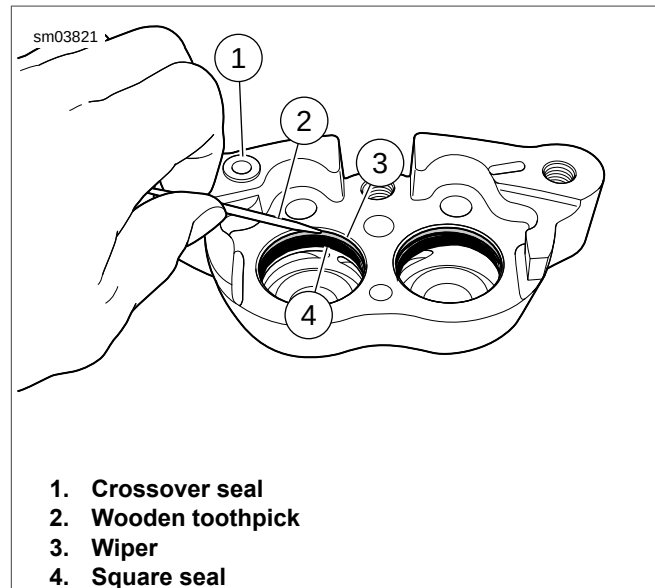

Figure 2-51. Wipers and Seals
6. See Figure 2-51. Remove and discard crossover seal (1) from inside caliper housing.
7. Using a wooden toothpick (2), remove a wiper (3) and square seal (4) from each caliper bore. Discard all removed parts.